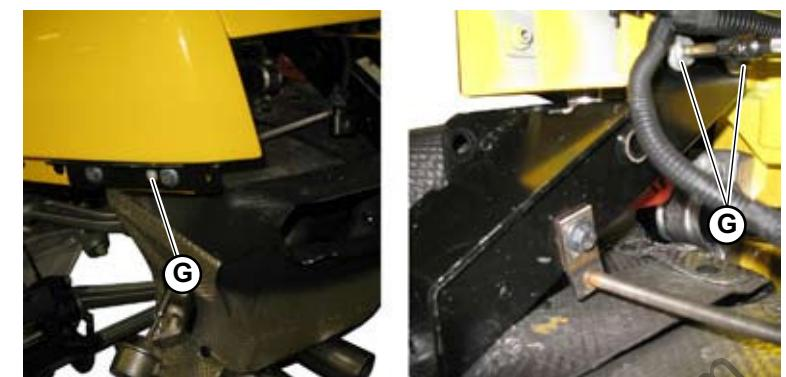

Fig.7
- Position the side frame (**F-Fig.7**) and secure it screwing on the 3 fixing screws (**G-Fig.7**).